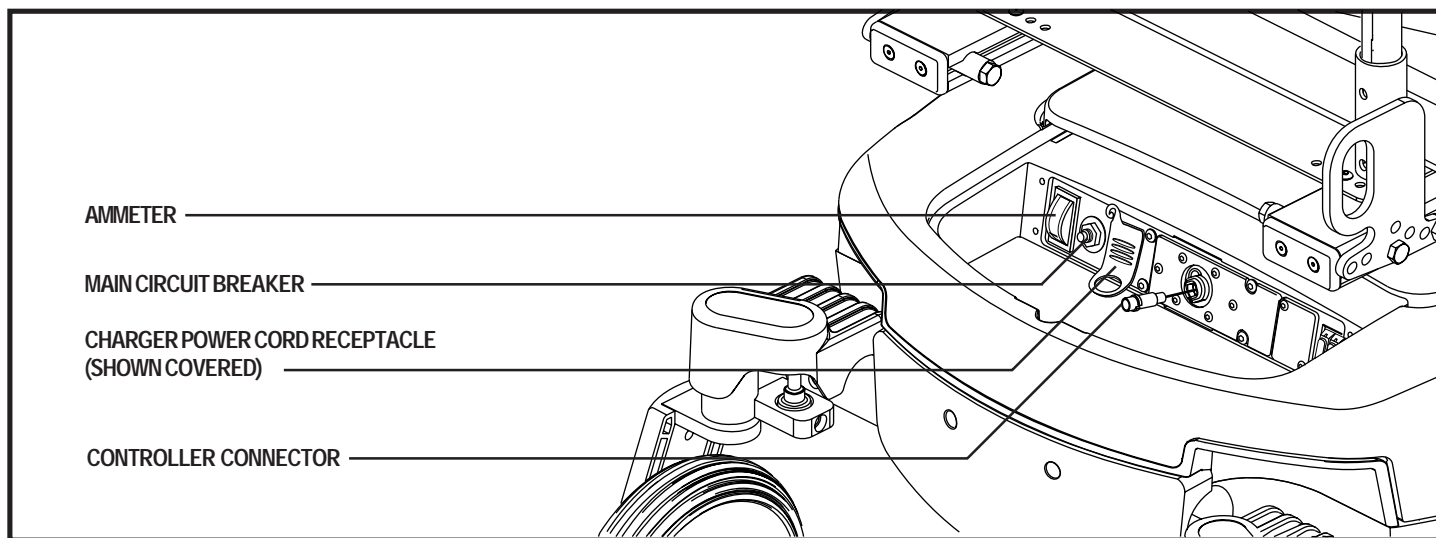

Figure 6. Electronics Tray (Shown with Optional Onboard Charging Components)
The electrical components consist of the controller, the batteries, and the motor. The batteries and the motor are located inside the power base assembly. The controller is located on the seat assembly. Connectivity between the controller and the batteries, motor, and optional onboard charger is provided by one or more wiring harness that connect to the rear electronics tray. The electronics tray is located underneath the rear sliding door. See figure 6.
9. Plug the controller connector into the power base. See figure 6.